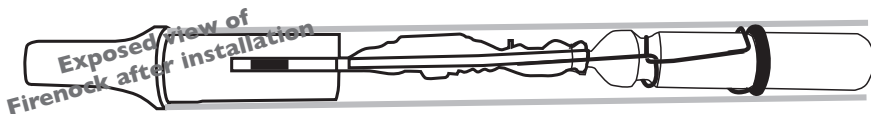

Figure 4
- Roll the included O-ring just over the Battery's mid groove. (Figure 4)